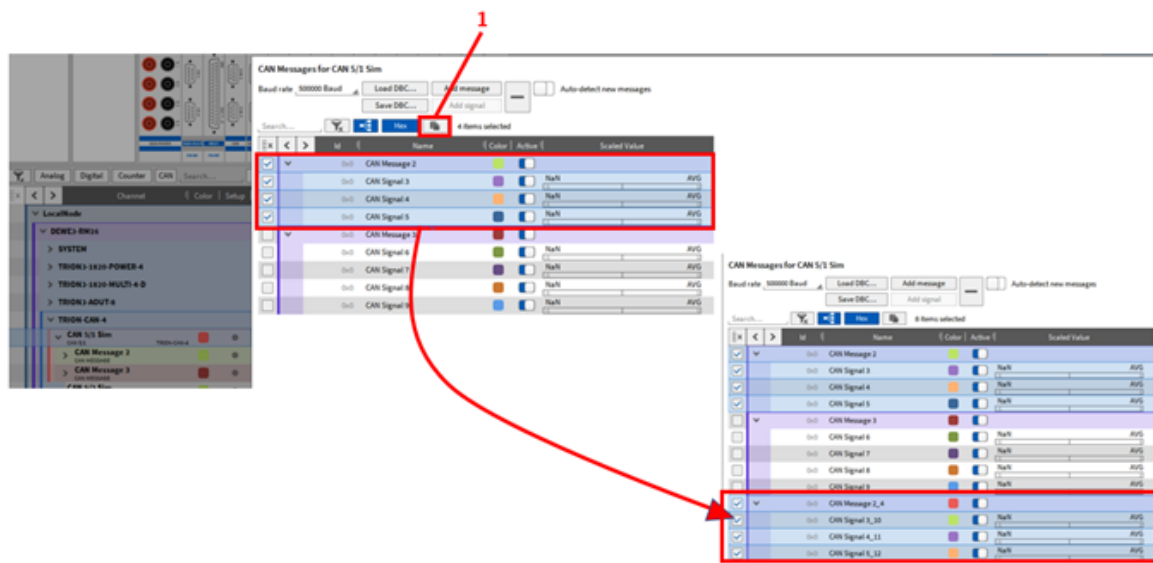

Fig. 4.54: CAN messages and signal settings (2)
- By pressing the button “1” (see Fig. 4.54), the marked CAN messages and signals are copied and added to the list of existing CAN messages and signals including the settings.